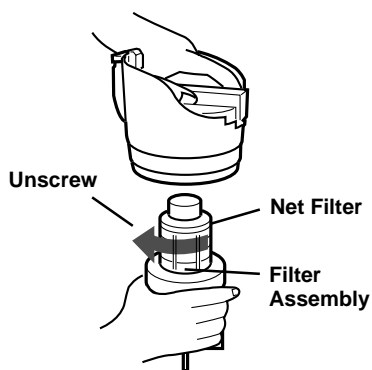

Fig.25
- 2 Unscrew the filter element from the assembly. (Fig.25)